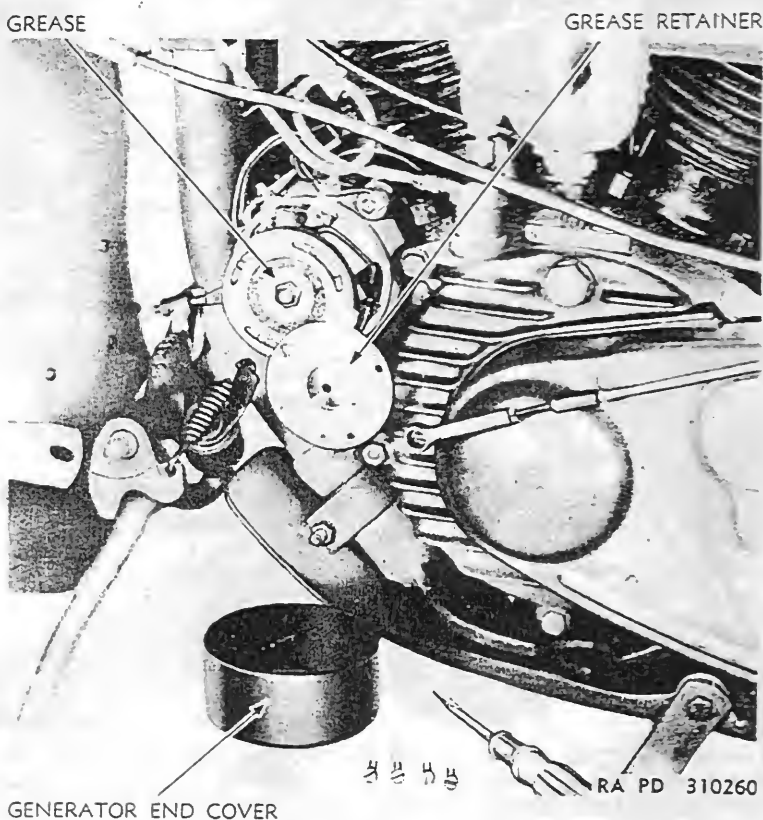

Figure 57—Generator End Cover and Grease Retainer Removed
92. ARMATURE BEARING SPECIAL LUBRICATION (fig. 57).
(1) Remove left footboard, sidebar, and clutch pedal assembly, following procedure outlined in paragraph 102 a (1) to (6).
(2) Remove the two end cover screws and pull end cover off generator.
(3) Remove two of the three screws which secure the outer grease retainer plate to end of generator (fig. 57).
(4) Loosen the other grease retainer plate screw slightly to permit shifting plate to one side.
(5) Pack ball bearing with general purpose grease No. 2, pressing lubricant into bearing with finger.
(6) Shift the outer grease retainer plate back into position. Install the two screws removed, and securely tighten all three screws.
(7) Install generator end cover and the two retaining screws.
(8) Install left footboard, sidebar, and clutch foot pedal assembly, following procedure outlined in paragraph 102 b.